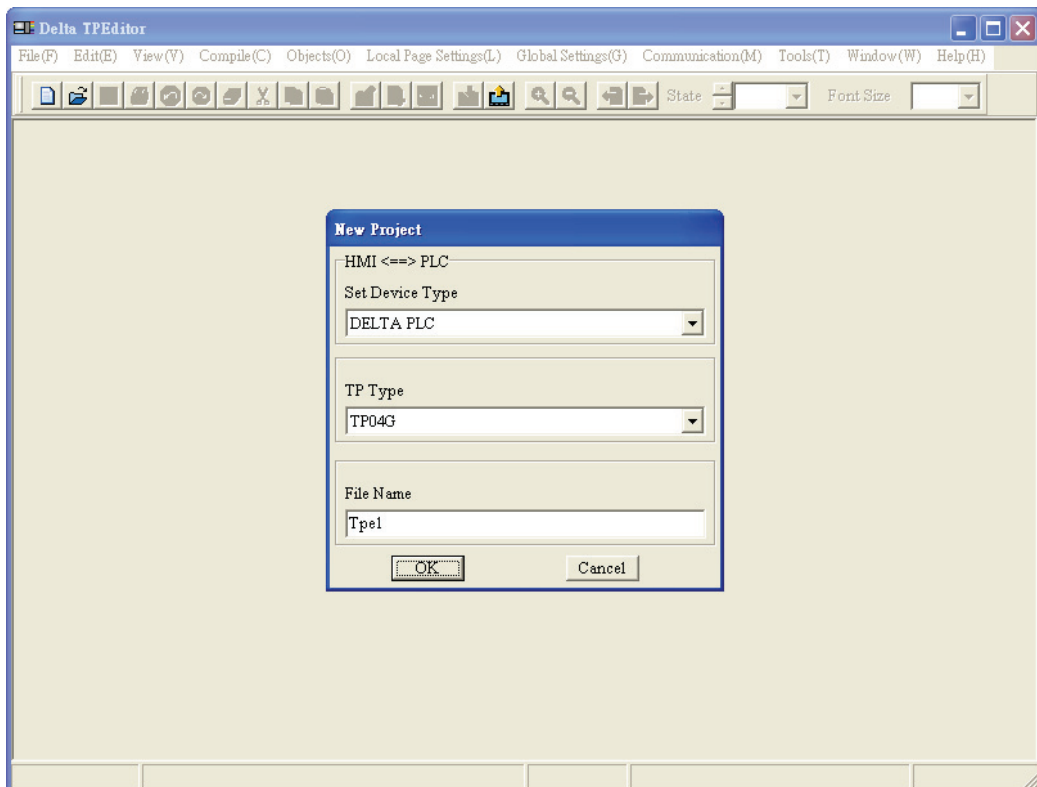

Figure 1-14
After clicking  or selecting **File (F) > New**, the New Project tab will display (Figure 1-14). Enter the Set Device Type, TP Type and File Name. Click **OK** button, and a new editing screen will be opened in TPEditor. Regarding the pull-down options of the Menu Bar, their functions will be introduced in the following sections.